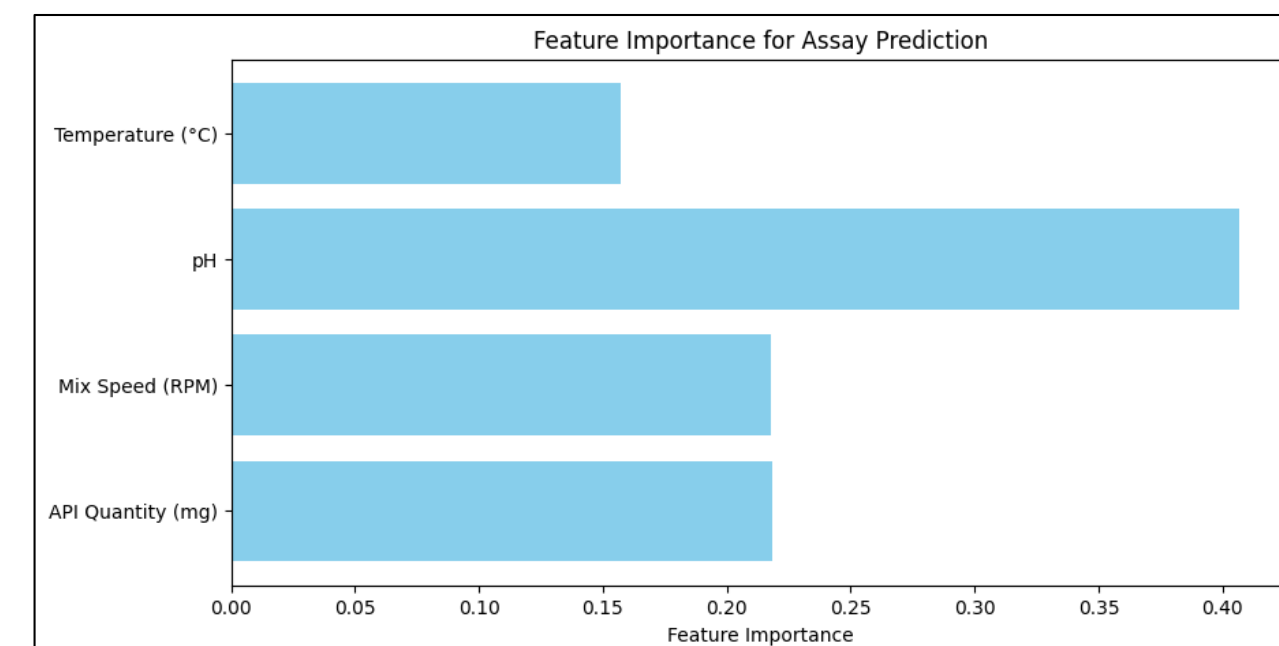

Figure 3: Feature importance plot for assay from Random Forest Model indicating pH has greatest impact on pH.
- Figure 3 indicates that pH has the greatest impact on assay (%)